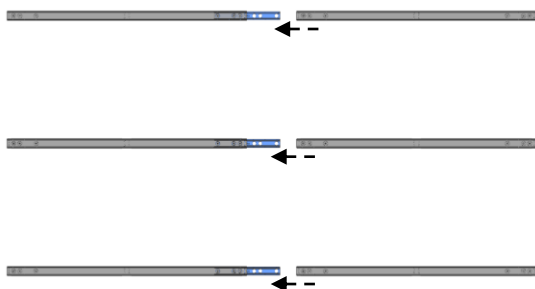

Fig.1 Insert Bracket H
- First insert ① Bracket H to assembled Joint H and Bracket H. (Fig.1)